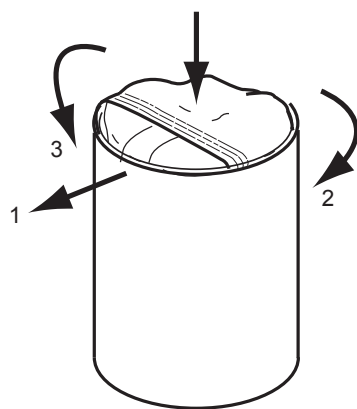

Figure 7.4.2
- * Put it into the case by pushing it while pulling the tug 1 to puff out the pack and folding the both top corners 2 and 3 of the pack outside (Figure 7.4.2).